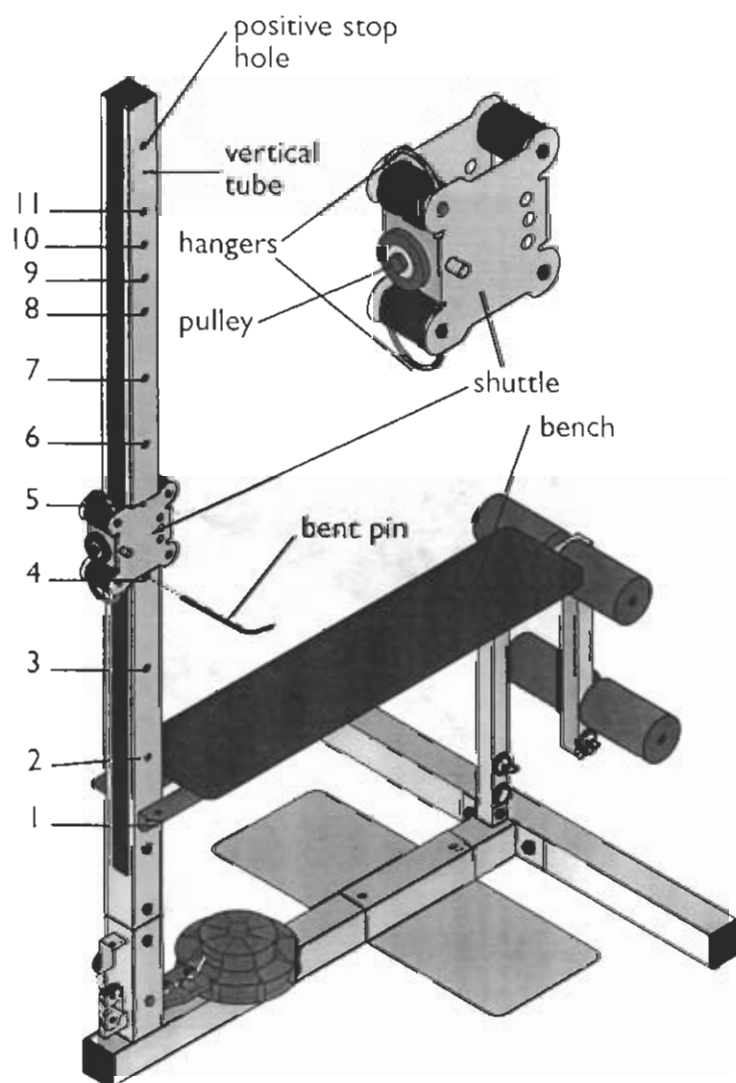

Figure 10
2. Position the shuttle (Figure 10) over the top of the vertical tube with the pulley on the side of the vertical tube that is opposite the bench. (The shuttle is reversible; either side can be toward the top.)
3. Slide the shuttle down over the vertical tube and lower it until it rests on the bent pin (Figure 10). Be sure that both hangers are accessible. If not, remove the shuttle and pull the hangers out so they are accessible when the shuttle is in position.